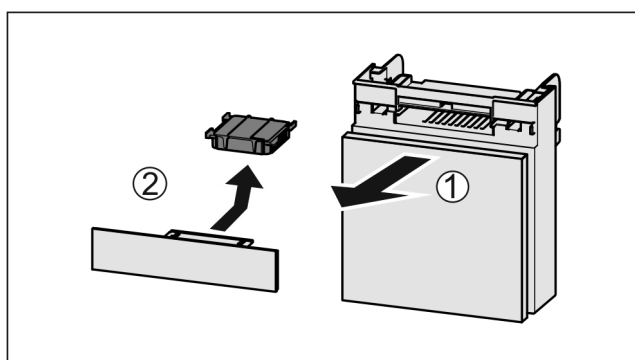

Fig. 131
- ▶ Pull out the compartment Fig. 131 (1).
- ▶ Remove the carbon filter Fig. 131 (2).